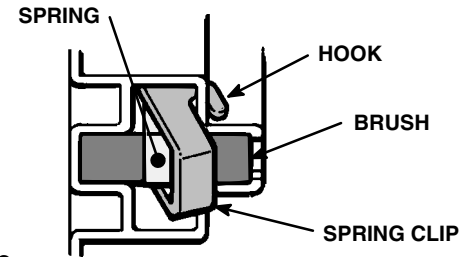

Fig 25-2
2. Push in the spring clip to release its hooks from the brush holder. Pull out the spring clip. See Fig 25-2.